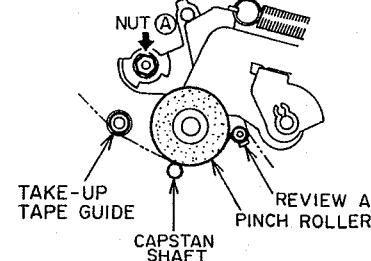

Fig. 4-6
- 2) Turn the REVIEW ARM height **(A)** nut so that the edge of the tape barely touches the lower part of the TAKE-UP TAPE GUIDE, without any curl or wrinkle between the TAKE-UP TAPE GUIDE and the CAPSTAN SHAFT as shown in Fig. 4-6 to Fig. 4-8.
If curl or wrinkle of the tape occurs, slightly turn the **(A)** nut (Shown in Fig. 4-6) until it disappears.